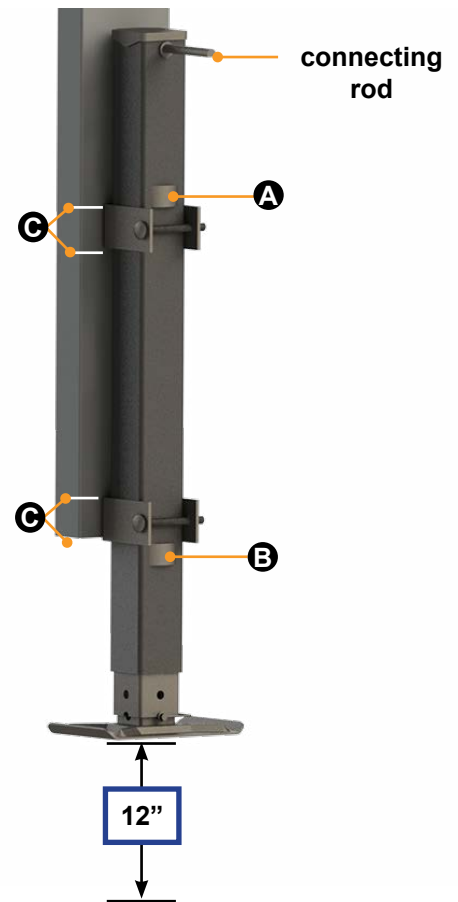

Fig.2
3. With the assistance of another person or jack stand, place the landing leg against the frame and lift until the landing foot is 12 inches off the ground (Fig.2)
NOTE: Both landing legs must be mounted at exactly the same height with the connecting rods (Fig. 2) directly across from each other for correct installation of the cross shaft.